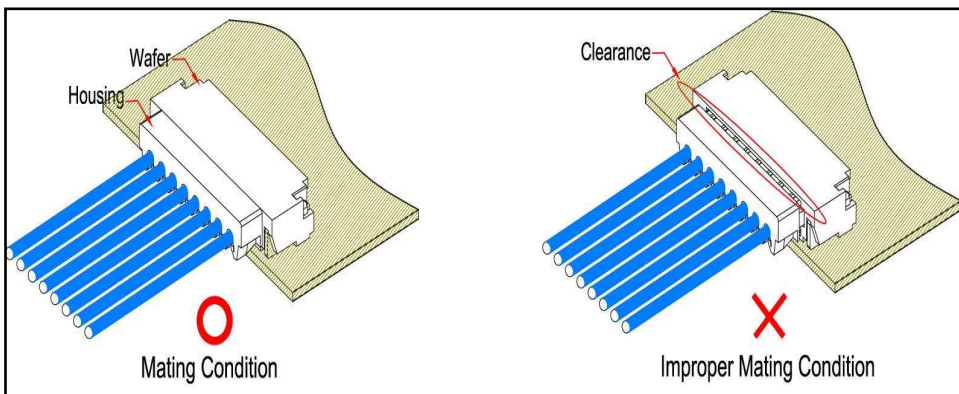

figure 4.4
- 4.4 After mating operation, check that there is no clearance between wafer and housing , because such clearance may lead discontinuity of connector. (see figure 4.4)